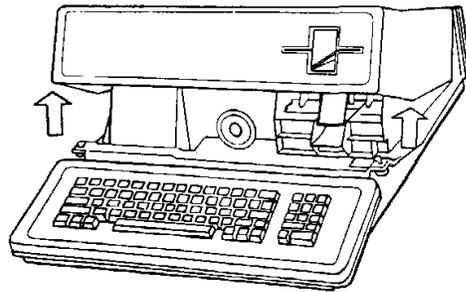

FIGURE 3
7. Lower the Apple back down to the table. Tilt the cover forward and lift straight up to remove it. (Figure 3).